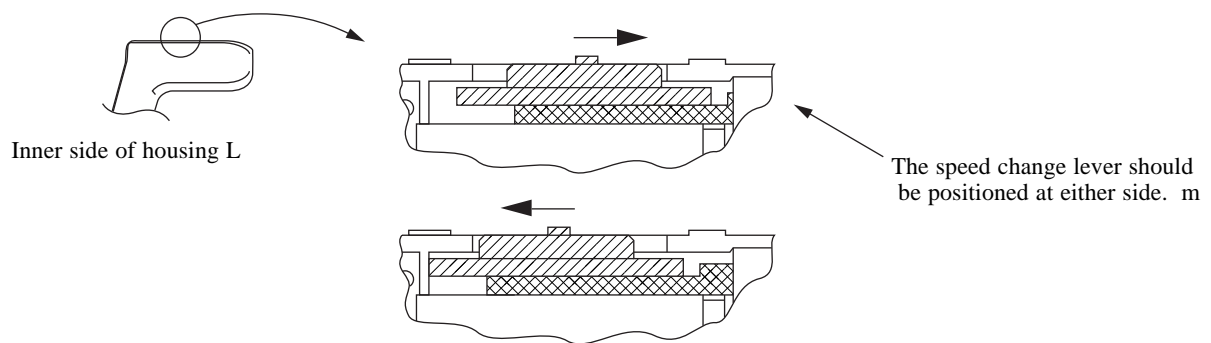

Figure 5
- 1) To assemble the one body of gear assembly and motor etc. on the housing L, place the speed change lever on the position shown on the figure 5.